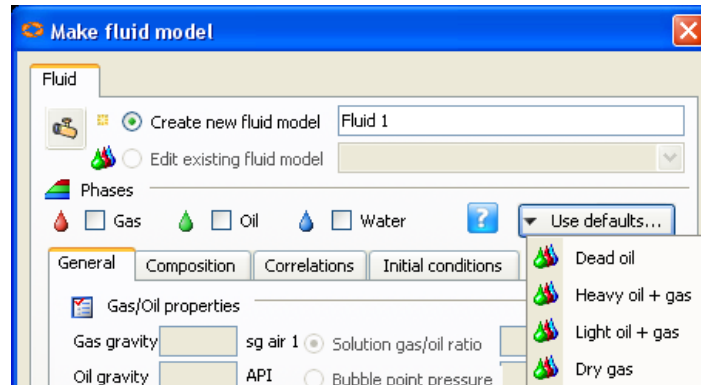

Fig.23.2: Fluid 1 inserted with use defaults popup list
2. Most of the fields on the dialog can be filled in with default values by selecting an option from the **Use defaults** list as shown in Fig.23.2. For example we will choose **Light oil + gas** option.